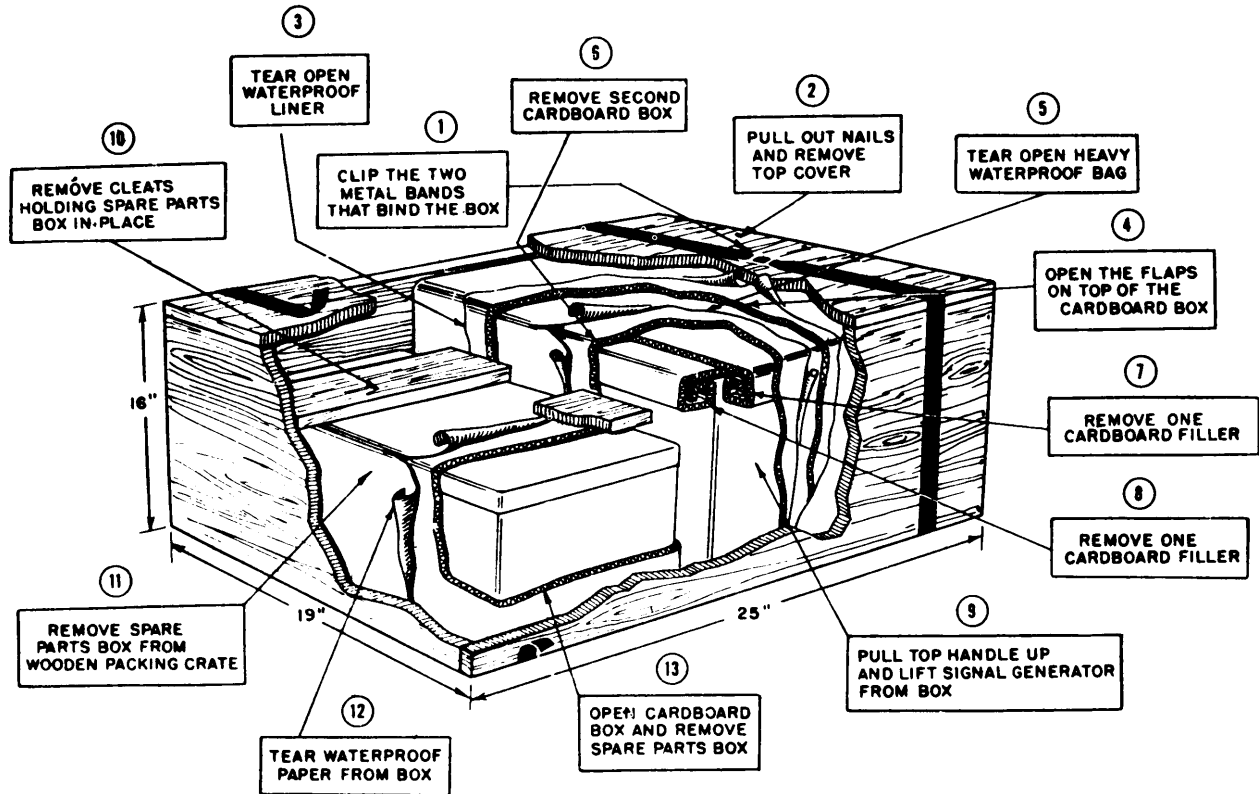

Figure 3-1. RF Signal Generator Set AN/URM-25B, Unpacking Procedure
a. The AN/URM-25B is packed in a wooden box together with a set of equipment spares. Electron tubes are shipped in place. The signal generator with accessories, and the set of spares are, in turn, enclosed in separate, specially cushioned cardboard cartons. Exercise great care in removing these items (See figure 3-1).